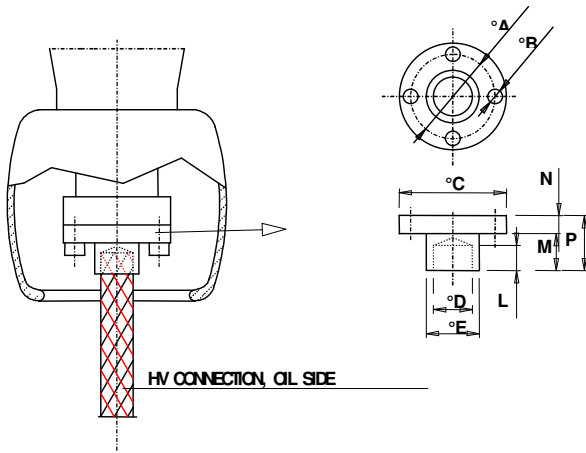

Fig. 6
- Prepare the lower disk terminal according to fig. 6 (dimensions A, R and C must correspond to the oil side terminal dimensions of the bushing, as indicated in its outline drawing);
- Weld the connection coming from the transformer winding to the disk (fig. 6);